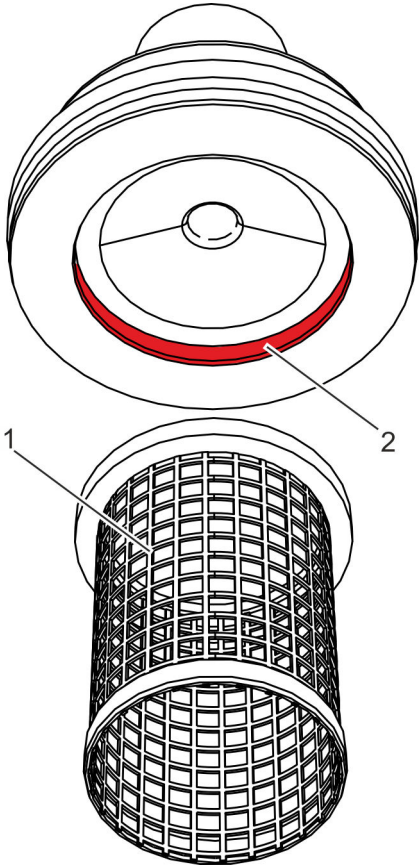

Fig. 27: Mounting the screen cylinder
5. ➤ Insert the new screen cylinder (Fig. 27/1) into the cover's centring element (Fig. 27/2).